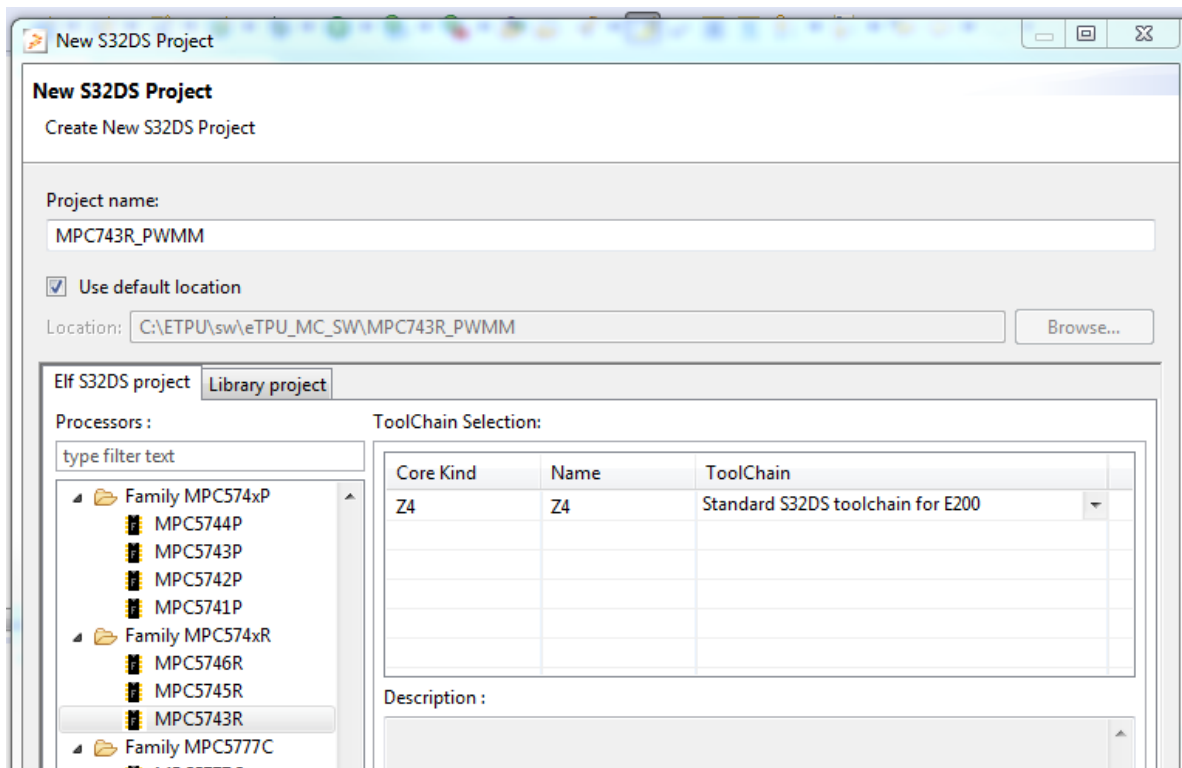

Figure 3 Project wizard - selection of the device
2. Type a name of the project to the upper line of the project wizard window and select the appropriate device on the left panel, in this application particularly MPC5743R and continue with **Next**. The device selection can be seen on Figure 3 Project wizard - selection of the device.